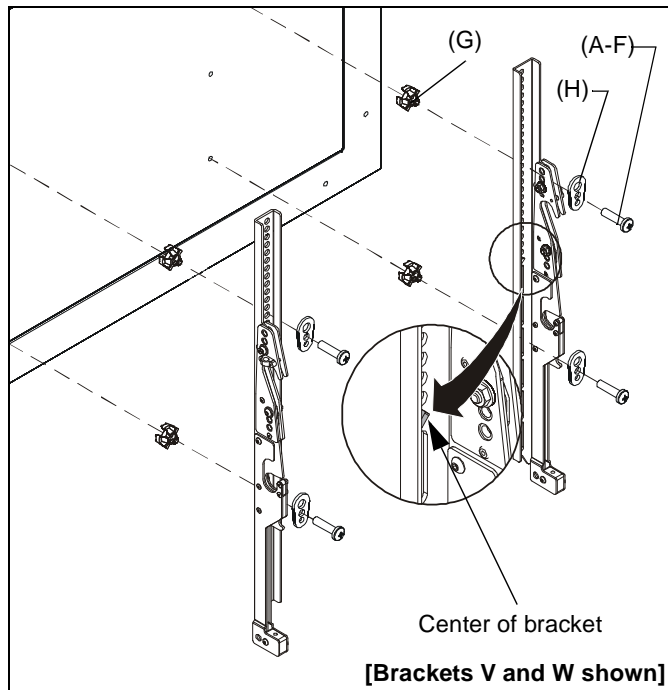

Figure 5
1. Align the center of the bracket (V and W or X and Y) with center of screen. (See Figure 5)
2. Select correct screws, nesting spacers (if necessary) and universal washers from the hardware bag (A-H) and attach brackets to back of screen. (See Figure 5)